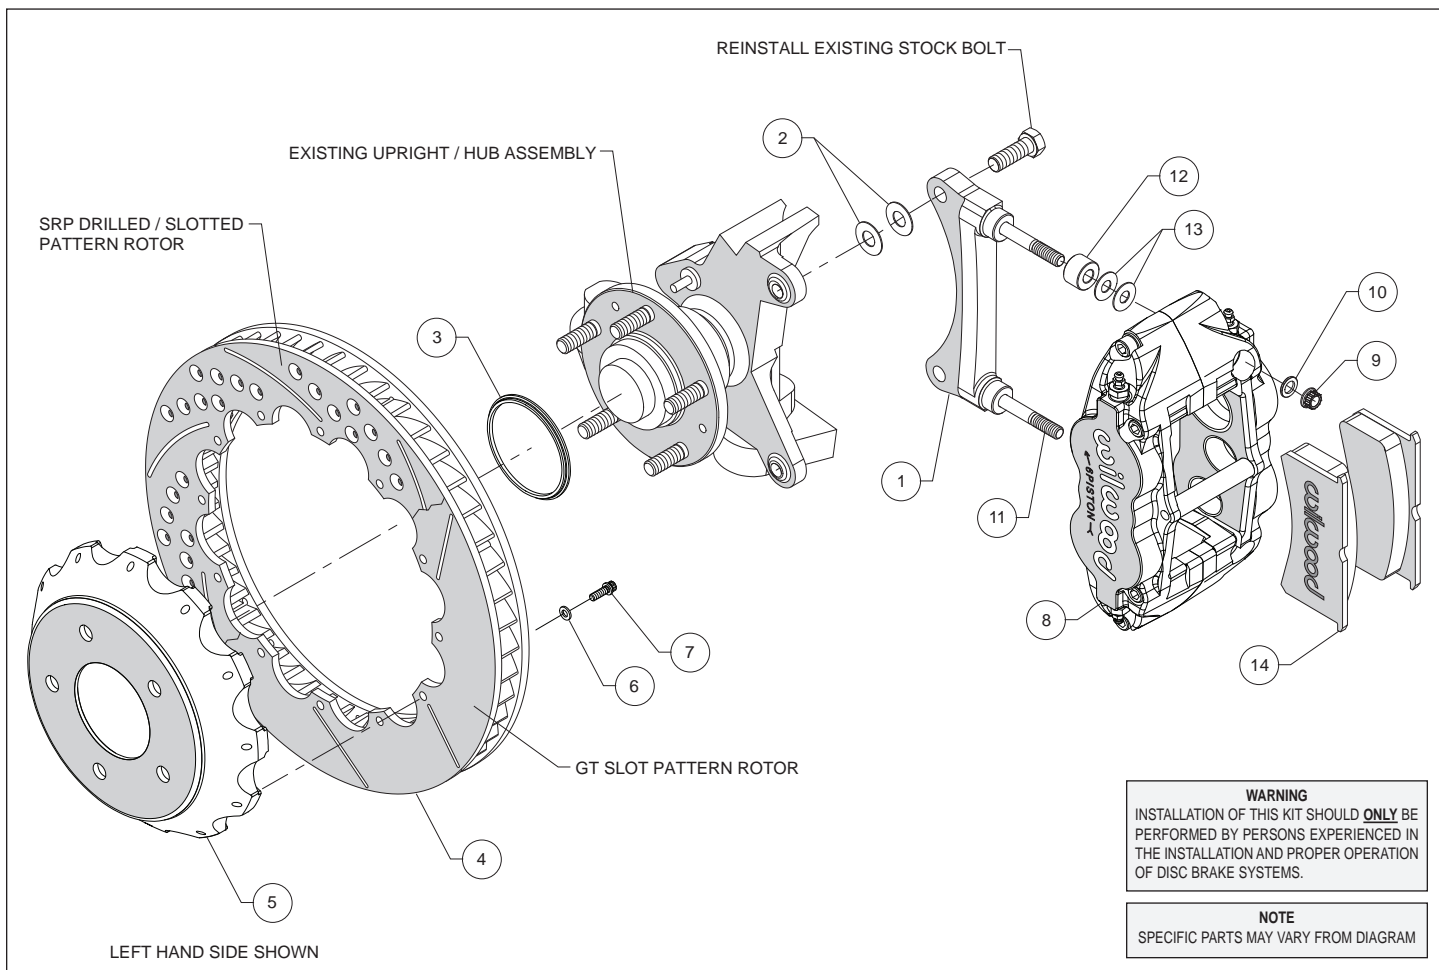
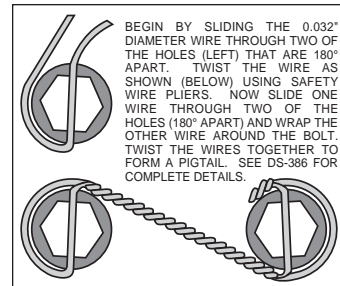

Figure 1. Typical Installation Configuration
Figure 3. Safety Wire Diagram
Assembly Instructions (numbers in parenthesis refer to the parts list and Figure 1 on the preceding pages):
- The caliper mount bracket (1) should initially be installed with clean, dry threads on the mounting bolts. Orient the bracket as shown in Figure 1, and install using saved Original Equipment Manufacturers (OEM) mounting bolts and shim washers (2). Initially place two shims (2) on each bolt between the bracket and upright, Figure 1. Temporarily tighten the mounting bolts. **NOTE:** The bracket must fit squarely against the mount bosses on the upright. Inspect for interference from casting irregularities, machining ridges, burrs, etc. Later, after the caliper alignment has been checked, the mount bolts will be secured using red *Loctite*® 271.
- Orient the rotor (4) and the hat (5) as shown in Figure 1 and Photo 1. Attach rotor to hat using bolts (7) and washers (6). Using an alternating sequence, apply red *Loctite*® 271 to the threads and torque bolts to 155 in-lb. For an added measure of security, the bolts may be safety wired using standard 0.032 inch diameter stainless steel safety wire as shown in Figure 3. Please refer to Wilwood's data sheet DS-386 (available at www.wilwood.com/Pdf/DataSheets/ds386.pdf) for complete safety wire installation instructions.
- Slide the rotor registration adapter (3) onto the axle register on the axle hub with the smaller O.D. facing outward, Photo 2. Slide the hat/rotor assembly onto the axle hub. **NOTE:** The hat must fit flush against the axle hub flange or excessive rotor run out may result. Install three lug nuts (finger tight) to keep the hat/rotor assembly in place while continuing with the installation.
- NOTE:** This kit contains distinct right and left hand calipers that must be mounted in a specific direction, as described below. Lubricate the caliper mounting studs (11) with lightweight oil. Initially place two .035" thick shims (13) and spacer (12) on each stud as shown in Figure 1 and Photo 3. With the bleed screws pointing up, mount the caliper (8) onto the bracket (1) using lock nuts (9) and washers (10), Figure 1 and Photo 4. Ensure that the caliper is mounted so that the largest pistons are at the rotor exit end of the caliper, in relation to the direction of rotor rotation. Temporarily tighten the lock nuts and view the rotor through the top opening of the caliper. The rotor should be centered in the caliper, Photo 5. If not, adjust by adding or subtracting shims (2) between the bracket and the upright. Always use the same amount of shims on each of the two mounting bolts. Once the caliper alignment is correct, remove the bracket mounting bolts one at a time, apply red *Loctite*® 271 to the threads, and torque to manufacturer's specifications.